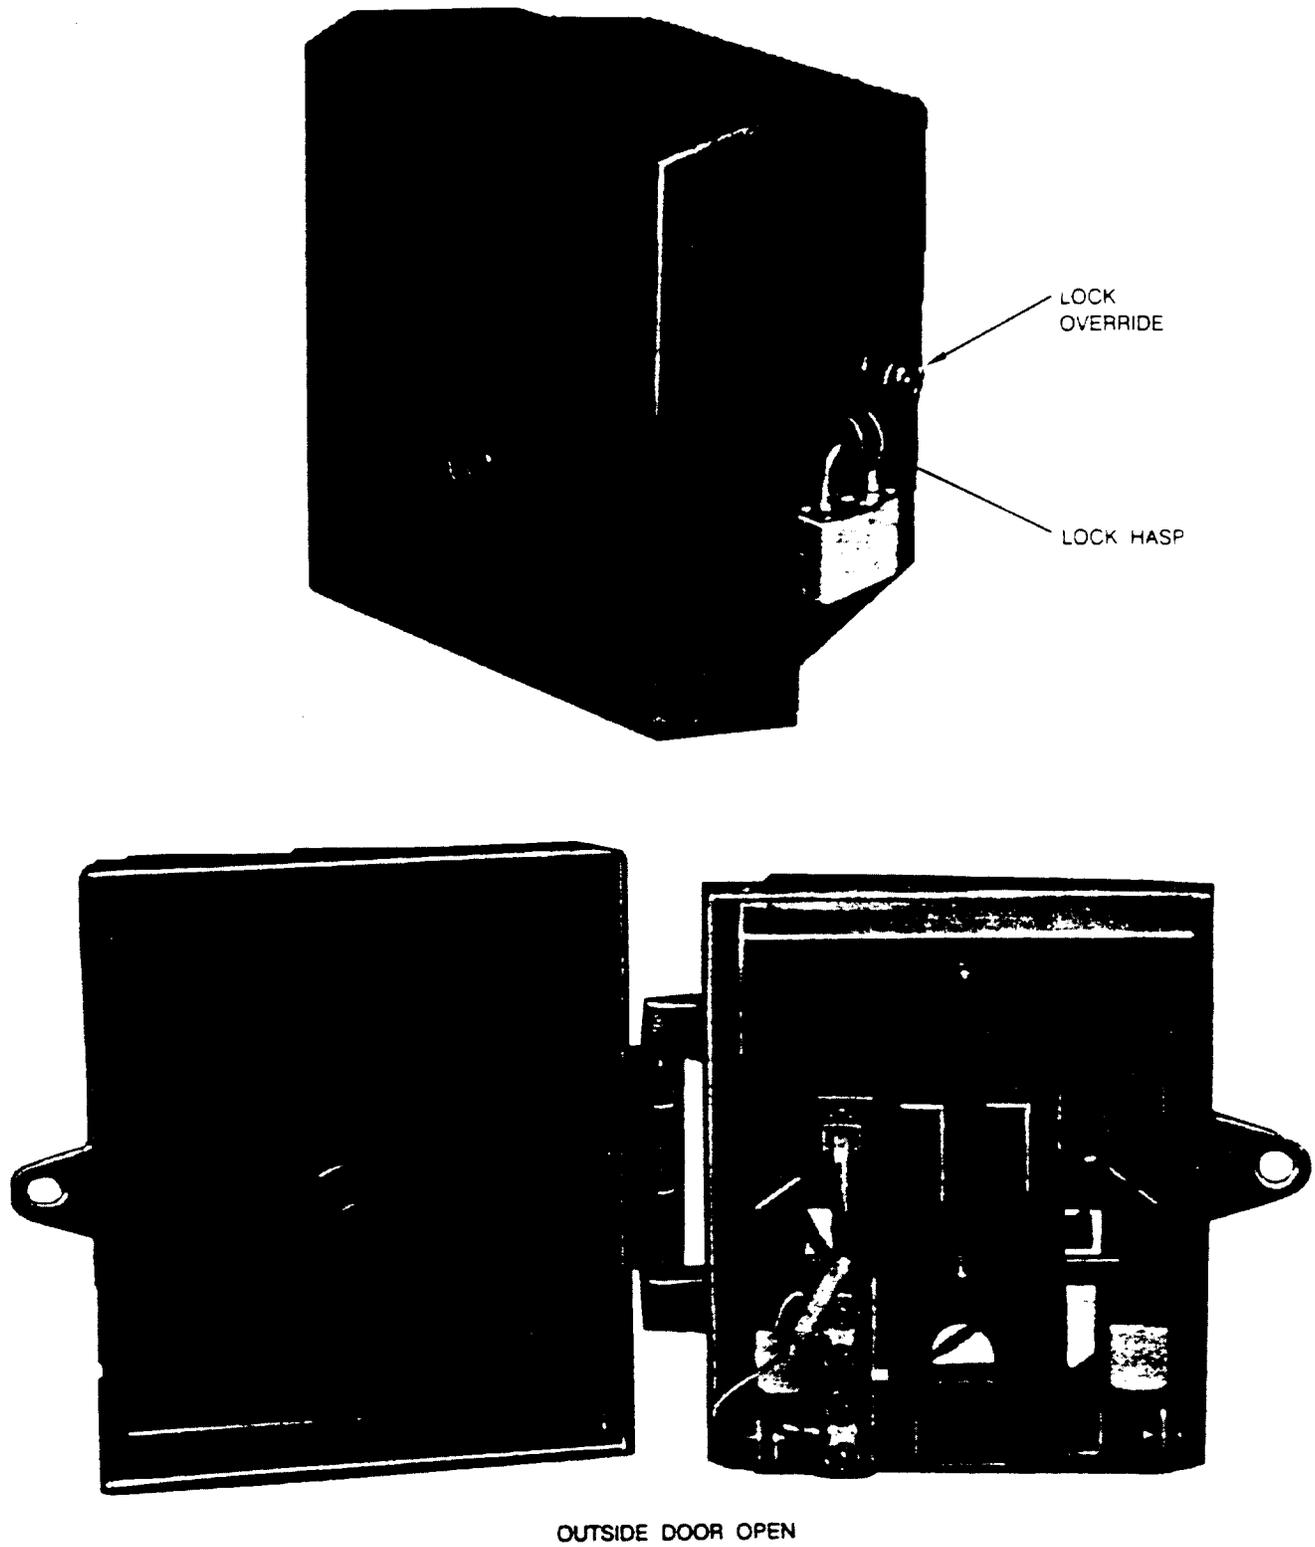

Figure 1. 401 NIU
3.01 The 401 NIU (Figure 1) consists of a housing with a hinged cover, provisions for two modular plugs and jacks, and termination of subscriber wiring. The 401 NIU (Figures 1 and 2) also has a base with a grommet for entry of service wire, subscriber wire, and ground wire.
**3.04** The outside cover and housing are equipped with a hasp for a subscriber provided lock (Figure 1). The hasp attached to the housing is equipped with a security screw for telephone company override of the subscriber provided lock.